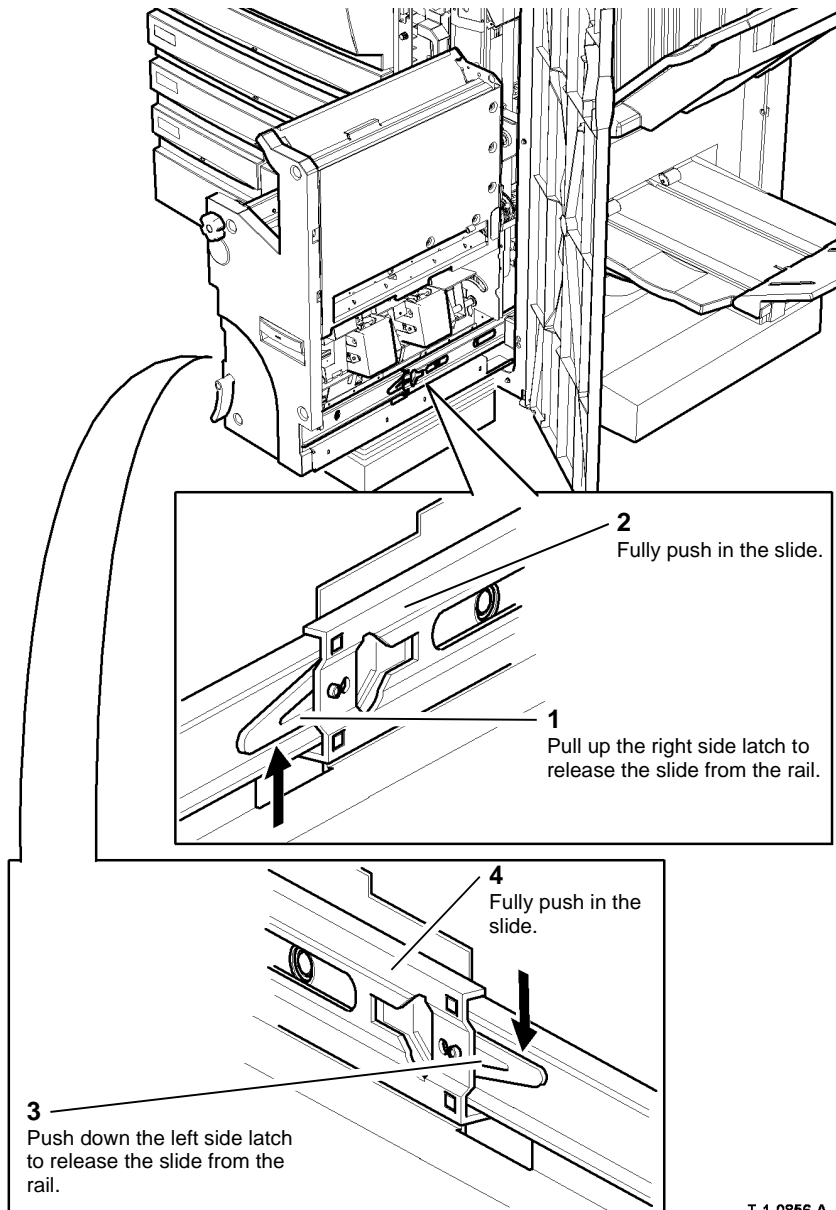

Figure 5 Releasing the slides
6. Figure 5, Release the latches.